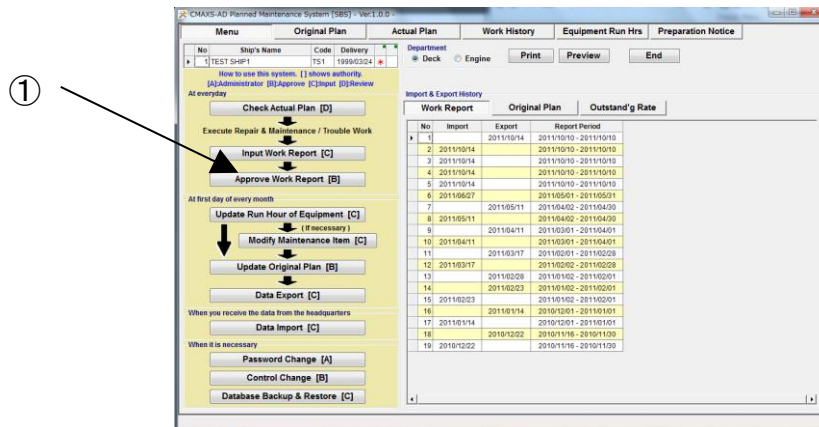

Fig.8-1 Menu Screen
(1) On the "Menu screen"(Fig.8-1), select [Approve Work Report].